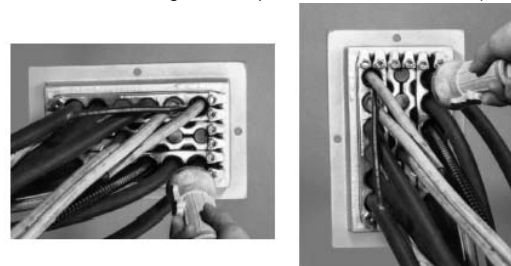

Figure 10.
- Check tightness of assembly by placing a bright light source on the one side of the assembly and inspecting it from the opposite side to see if any light is visible through the assembly. Any visible light indicates that a proper seal has not been formed. Tighten compression hardware further (see Figure 10).